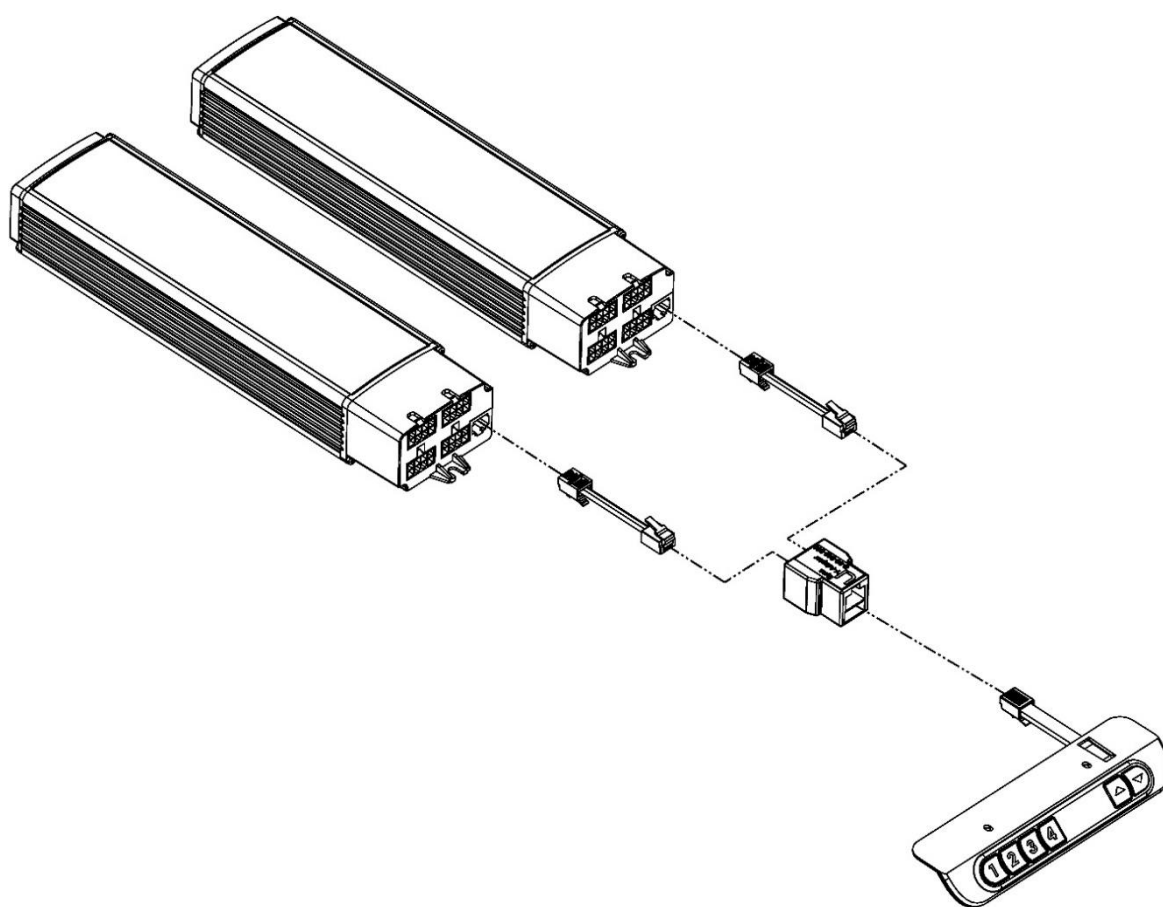

Figure 21: Assembly of linking controller system more than four lifting elements
- ➔ The complete assembly of this linking controller system with more than 4 lifting elements is shown at the next page in Figure 21